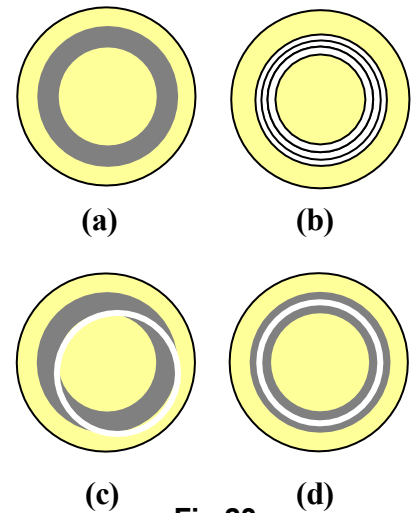

Fig.23
- c. Loosen the condenser lock thumb screw as shown in ***Fig. 23***; take off the original condenser from the holder.
- g. Turn the top of the telescope (**Fig.24**) until the dark ring image is in focus. If the dark ring is hard to find, put a normal white print paper on the stage and under the objective then you will see the dark ring as shown in **Fig.23 (a)**.
- h. If the bright ring is still obscure as in **Fig.23 (b)**, raise or lower the condenser by adjusting the condenser focusing knob (or the microscope focusing knob if necessary) till the bright ring is in focus and the dark ring is visible.
- i. If the two ring images are not coincided as shown in **Fig.23 (c)**, adjust the two centering screws on the condenser ring plate till the two rings are coincided with each other as shown in **Fig.23 (d)**.